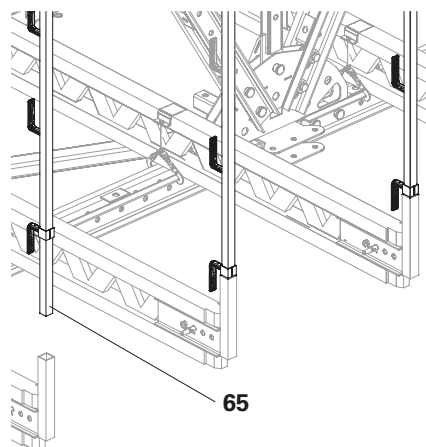

Fig. A6.04
3. Insert 1x guardrail post (**65**) into each guardrail holder (**64**). (Fig. A6.04)